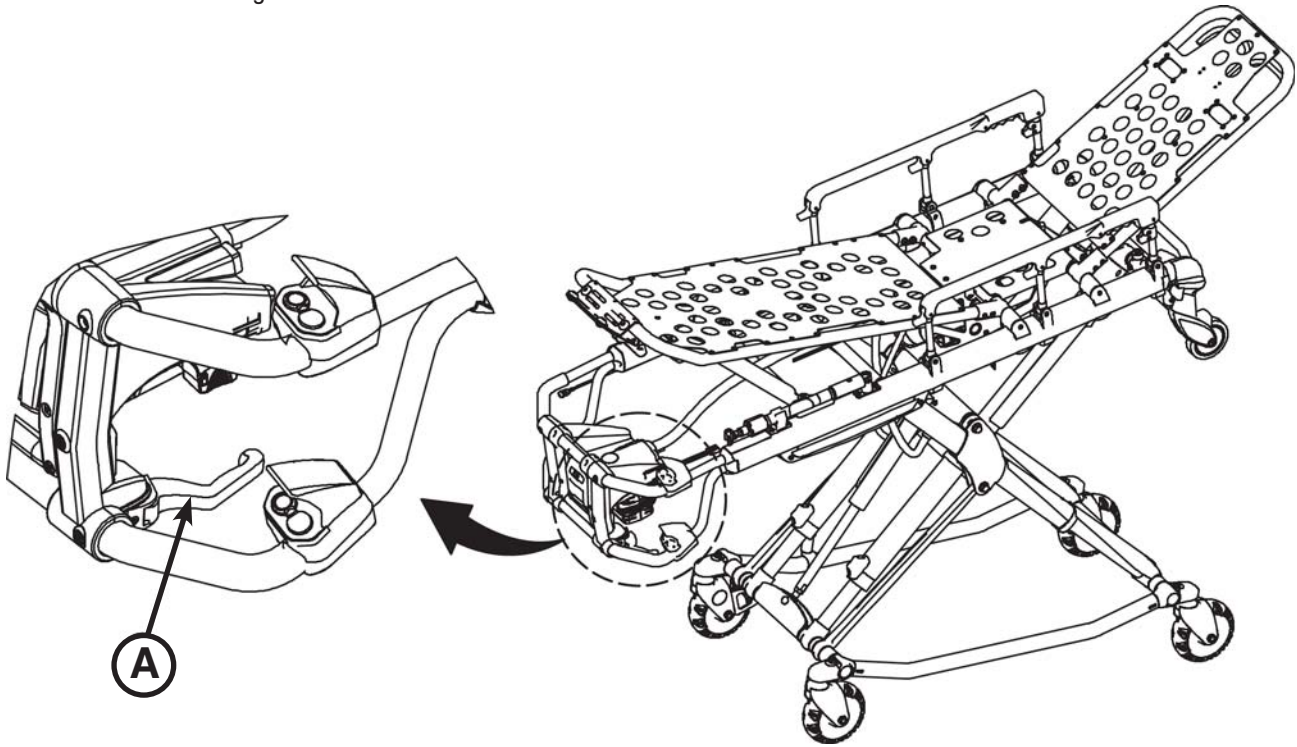

Figure 26: Manual Back-Up Release Handle
The **red** manual back-up release handle (A) is located along the patient left side of the lower lift bar at the foot end of the cot as shown in Figure 26.